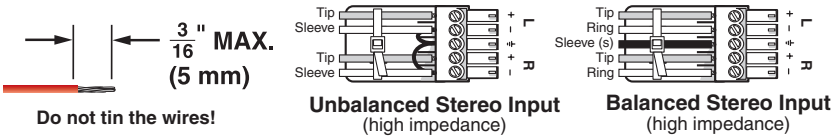

Figure 1-2 — Captive screw input connector wiring
- ① S-video connector (SV models) — Connect an S-video input to this 4-pin mini DIN connector.
- ② Composite video connector (CV and AV models) — Connect a composite video input to this connector (female RCA on the MTP T AV AAP, female BNC on all other models).
- ③ **Audio input captive screw connector (MTP T SV A, MTP T AV)** — Connect a balanced or unbalanced audio input to this 3.5 mm, 5-pole captive screw connector. Connectors are included with each MTP. See Figure 1-2 to wire a connector for the appropriate input type. Use the supplied tie-wrap to strap the audio cable to the extended tail of the connector. High impedance is generally over 800 ohms.